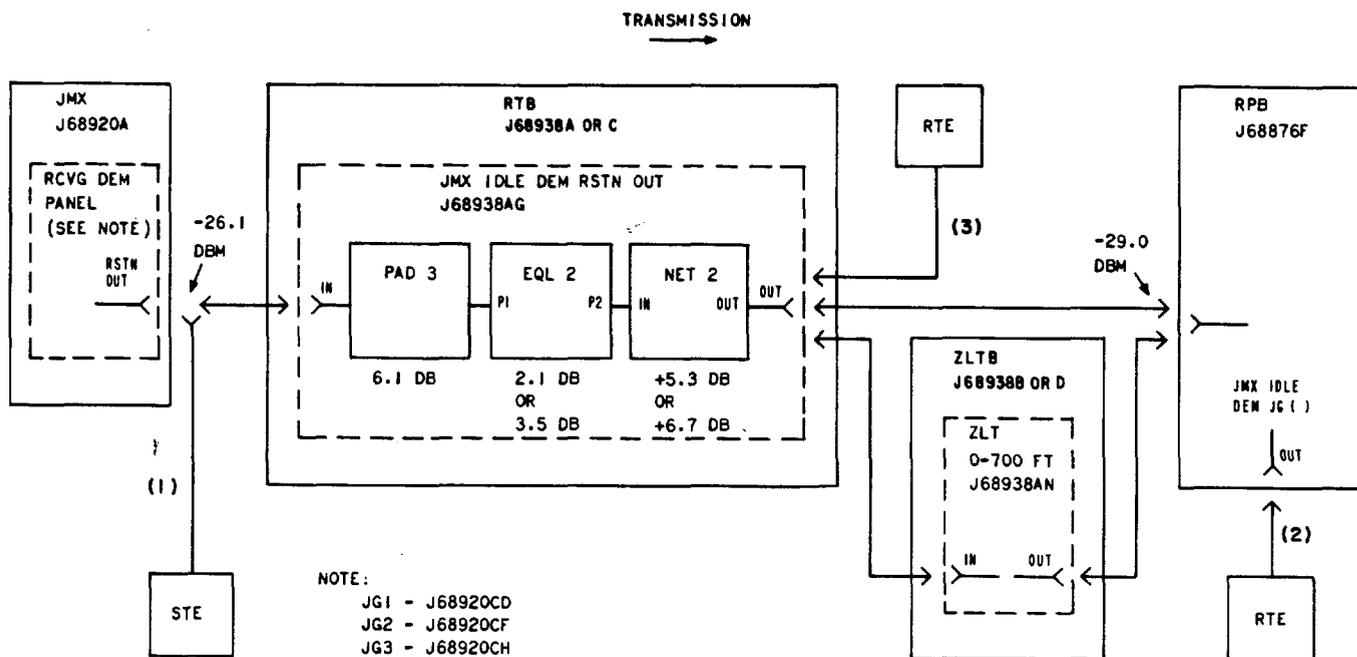

Fig. 7—JMX Idle Receiving Demodulator Output Restoration Trunk Circuit
4	By using office records, locate the receiving demodulator panel of interest at the JMX and remove the cable from the RSTN OUT jack. Connect the STE to the cable [Fig. 7, patch (1)].
5	Connect the RTE to the JMX IDLE DEM OUT jack at the RPB [Fig. 7, patch (2)].
9	Move the RTE to the OUT jack at the RTB [Fig. 7, patch (3)].
18	If the requirement in Step 17 is met, move the RTE back to the RPB [Fig. 7, patch (2)], restore the coax to the OUT jack at the RTB, and go to Step 19; if otherwise, troubleshoot the trunk between the RTE and the STE and go back to Step 11.